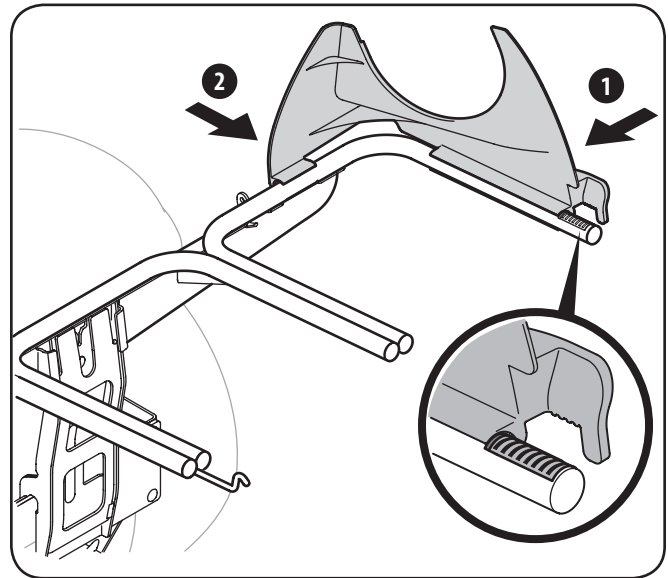

Figure 4-6
9. Snap the plastic upper chute support in place by first clipping the side portion onto the bagger support rail (1) with the edge of the snap feature aligned with the red line, as seen in the inset of Figure 4-6.
10. Snap the front side of the chute support to the rail (2), as shown in Figure 4-6.